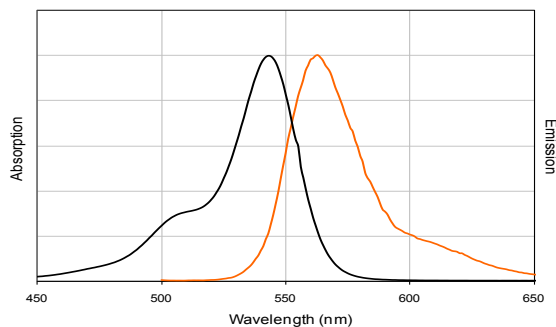

Figure 1. Absorption and emission spectra of CF™543 conjugated to goat anti-mouse IgG in PBS.
**Abs/Em Maxima:** 541/560 nm (See Figure 1)
CF™543 is an orange colored fluorescent dye with absorption and emission maxima at 541 and 560 nm, respectively (Figure 1). The dye is based on a new class of rhodamine dyes invented by Biotium scientists. Unlike traditional rhodamine dyes, CF™543 is not only bright and photostable but also highly water-soluble. As a result, CF™543 antibody conjugates retain excellent solubility and yield the brightest fluorescence among antibody conjugates prepared from spectrally similar dyes.